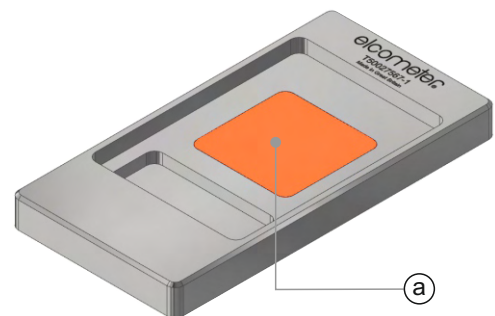

Figure 22
- 2 Completely fill the sample chamber (a) with the test coating, making sure that there is a slight dome or meniscus (Figure 22).